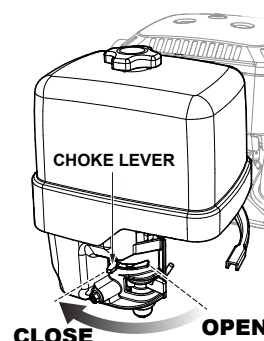

Figure 13. Choke Lever (Closed)
3. Place the choke lever (Figure 13) in the "CLOSED" position if starting a cold engine.